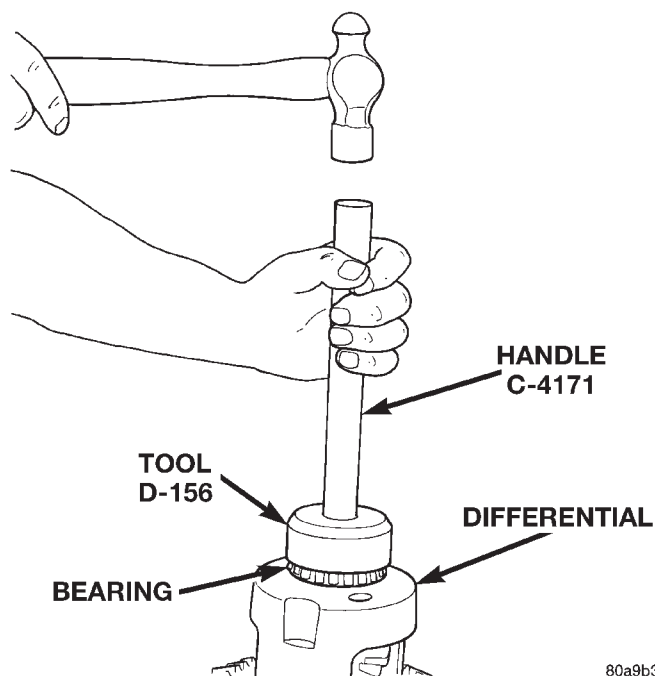

Fig. 24 Install Differential Side Bearings
- (1) Install differential preload shims on differential case hubs.
- (2) Using tool D-156 with handle C-4171, install differential side bearings (Fig. 24).
- (3) Install differential in axle housing.